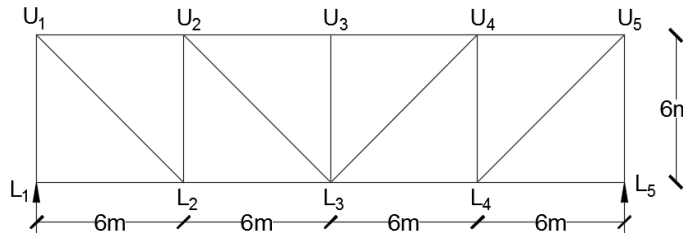

Fig. 6.
8. (a) Determine the influence line diagram for the forces in the member U_1U_2 , U_2U_3 , L_2L_3 , U_2L_2 **14M** and U_2L_3 for the pratt truss as shown in **fig 6**.